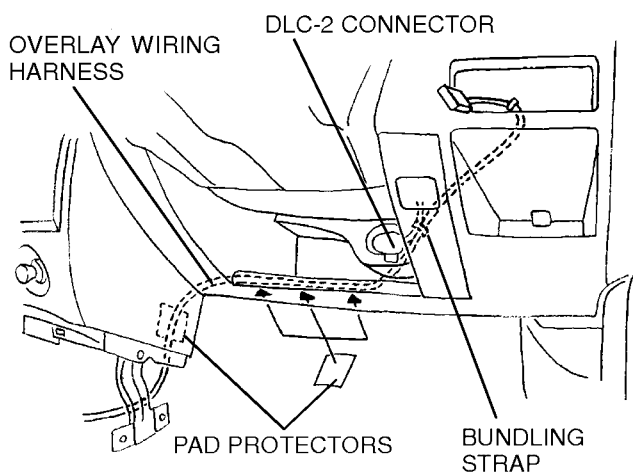

FIGURE 23
4. Secure the overlay wiring harness with the DLC-2 connector harness using the bundling strap and affix it to the dashboard using the pad protectors (refer to Figure 23).